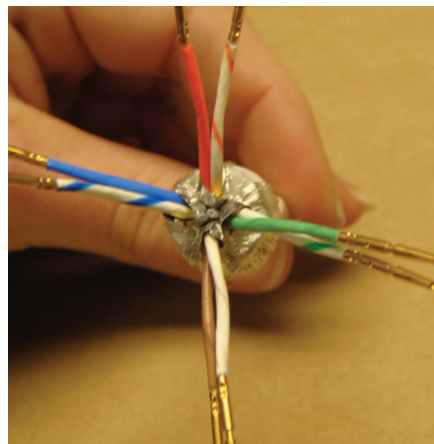

Figure 68: Spreading out the wires
18. Spread out the pairs around the cable to ensure the insert will sit inside the group of wires (Figure 68).